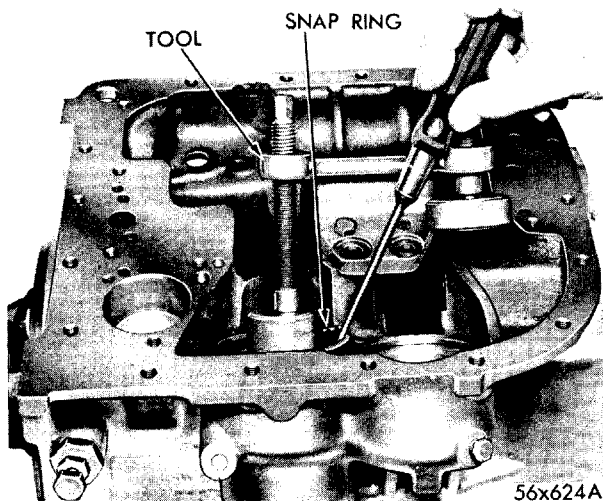

Fig. 49—Removal and Installation of Kickdown Piston Rod Guide Snap Ring
(1) Install Tool C-3529 or C-3289 (modified) and apply sufficient pressure on the kickdown piston rod guide to permit the removal of the snap ring. (Fig. 49). Remove the snap ring.
(2) Remove tool from case.
(3) Remove piston rod guide, piston spring and piston rod.
(4) Using pliers, Tool C-484, remove the kickdown piston from transmission case.